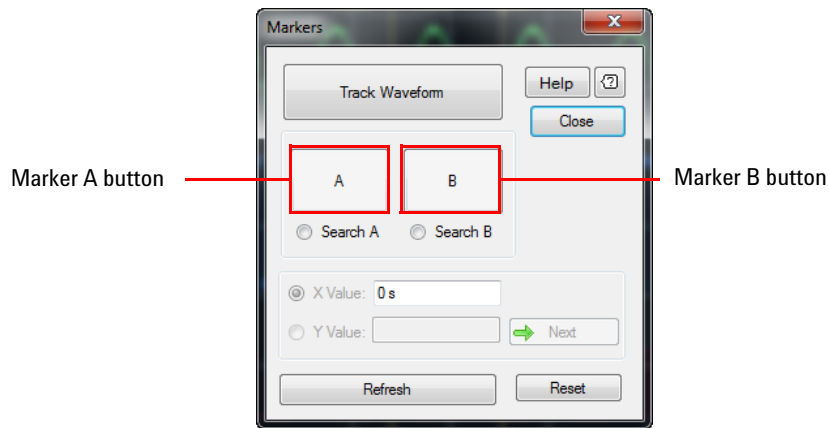

Figure 2-109 Markers dialog
- 3 The Markers dialog is displayed on the graphical interface as shown in Figure 2-109.